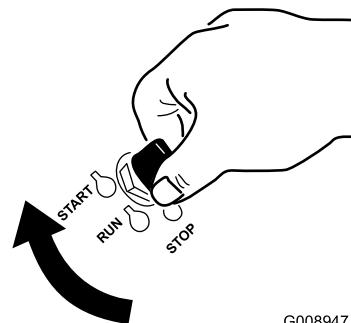

Figure 12
1. Turn the ignition key to the Start position (Figure 12). When the engine starts, release the key.
- Turn the ignition key to the Start position (Figure 12). When the engine starts, release the key.